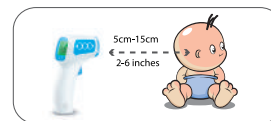

Figure 3: Align behind the ears to measure
- If it's not possible to perform a forehead measurement, you can aim at the ear, see figure 3.